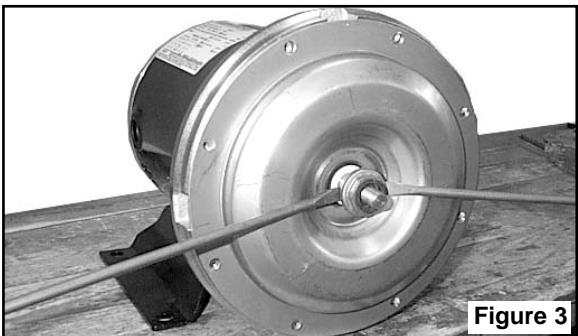

Figure 3
10. Pry off rotating member of mechanical seal from motor shaft by using (2) screwdrivers. Be careful not to damage the pump cover. See Figure 3.